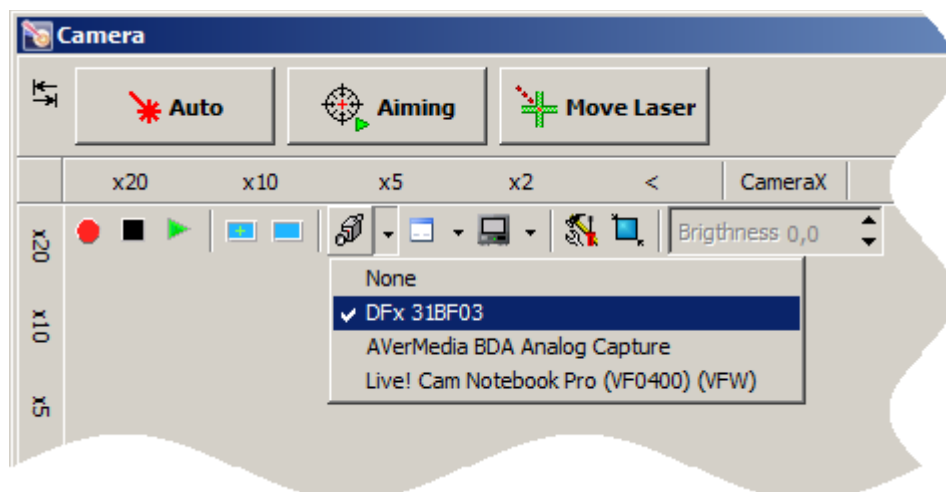

Fig. 5-22. Activating the video camera
3. Click the  button. In the newly opened list, select DFX 31BF03 (see Fig. 5-22).